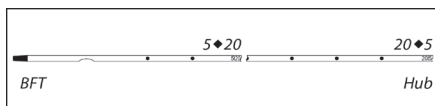

Figure 2
- The catheter is marked to identify desired amount of catheter to be trimmed and length of catheter that remains (refer to Figure 2).
NOTE: Centimeter double numbering pattern is as follows (refer to Figure 2):